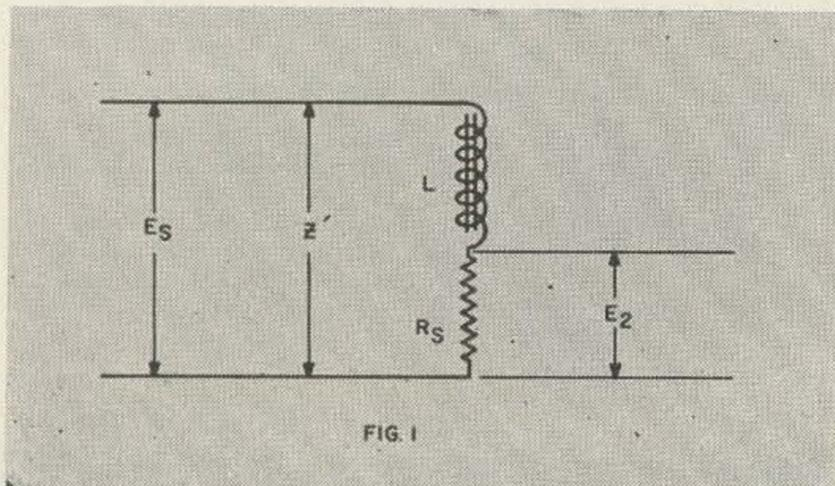

Fig. 1 Simple ac circuit containing inductance and resistance.
In any ac circuit, such as that of Fig. 1, containing both inductance and resistance, the impedance can be found from the ac adaptation of Ohm's law:—
Substituting these obtained values in (1) gives us the impedance of the circuit of Fig. 1. Computation is simplified if we combine the formulae, by substitution, obtaining:—
Even though we know the impedance of the entire circuit, we still cannot compute the inductance of the choke by any reasonable method, as most chokes have a finite internal resistance, which must also be taken into consideration. Actual circuit, in the configuration of Fig. 1, taking into account the internal resistance of the choke, R_i , comprises Fig. 2. Impedance of this circuit, already found experimentally from (3), is also given by:—